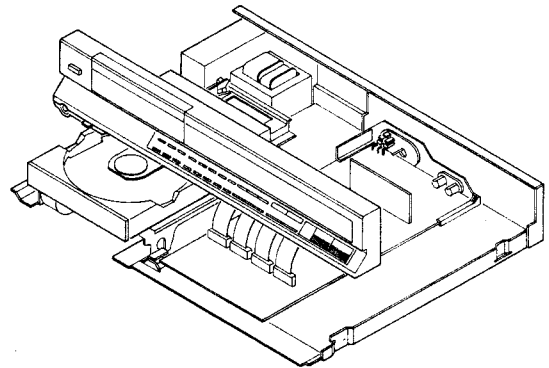

Fig. 27
3. Check the P.C.B. as shown in Fig. 27.